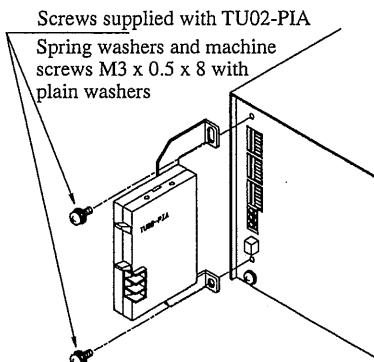

Fig. 1-9
- ③ Install the TU02-PIA on the power supply as shown in Fig. 1-9.